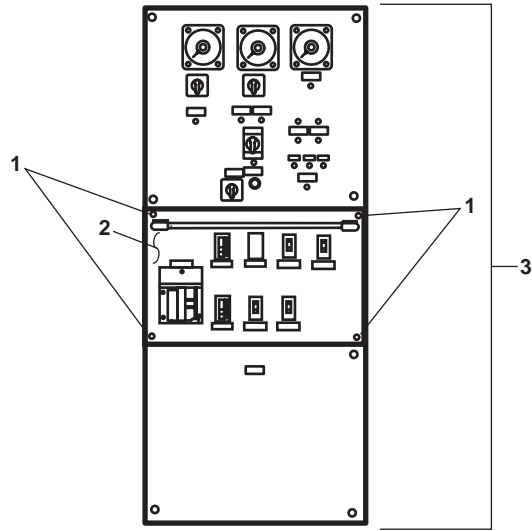
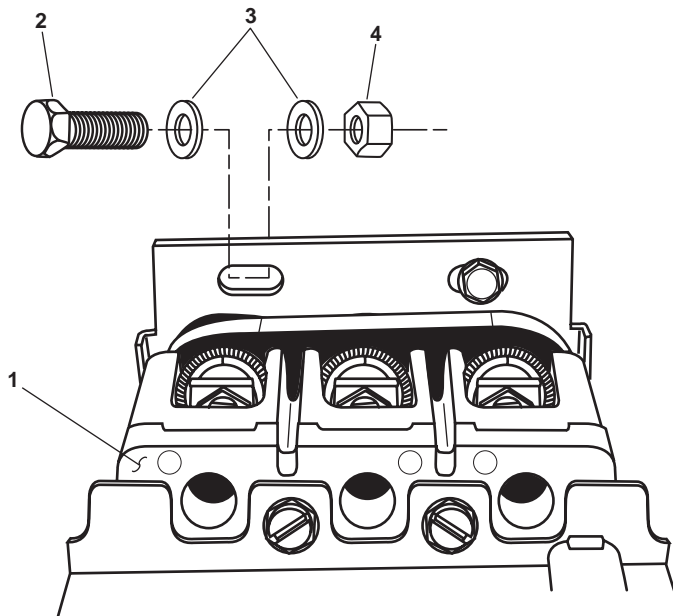

Figure 1. Emergency Switchboard
Figure 2. Bus Tie Circuit Breaker
1. Loosen the four captive screws (figure 1, item 1) and remove the door panel (figure 1, item 2) from the emergency switchboard (figure 1, item 3).
2. Use a multimeter to check for voltage at the bus tie circuit breaker assembly (figure 2, item 1). If voltage is present, ensure that the proper fuel oil valves have been secured, locked out, and tagged out (FM 55-502). If no voltage is present, continue with the procedure.
6. Remove the two bolts (figure 2, item 2), the four flat washers (figure 2, item 3), and the two nuts (figure 2, item 4) from the bus tie circuit breaker assembly (figure 2, item 1).
7. Remove the bus tie circuit breaker assembly (figure 2, item 1) from the emergency switchboard (figure 1, item 3).
1. Install the bus tie circuit breaker assembly (figure 2, item 1) in the emergency switchboard (figure 1, item 3).
2. Install the two bolts (figure 2, item 2), the four flat washers (figure 2, item 3), and the two nuts (figure 2, item 4) in the bus tie circuit breaker assembly (figure 2, item 1).
5. Install the door panel (figure 1, item 2) on the emergency switchboard (figure 1, item 3).
6. Tighten the four captive screws (figure 1, item 1) on the door panel (figure 1, item 2).